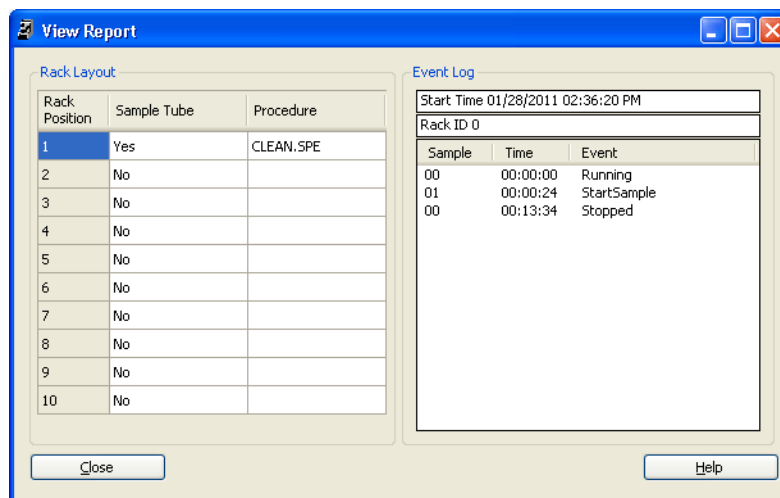

Figure 35. View Report Window
- The rack layout, in the box on the left, identifies the procedures that are assigned to the samples and if a sample test tube or vial is present. If no sample test tube or vial is present, the procedure does not run on that sample. In this example (see Figure 35), there were only one sample present (sample 1).